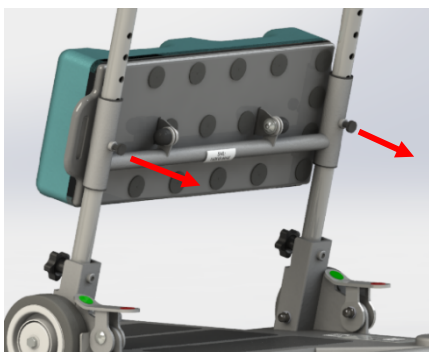

Figure 8
1. On the rear face of the product release the Knee/shin pad from its current location by pulling on the black locking plungers and the same time. (see Figure 8)